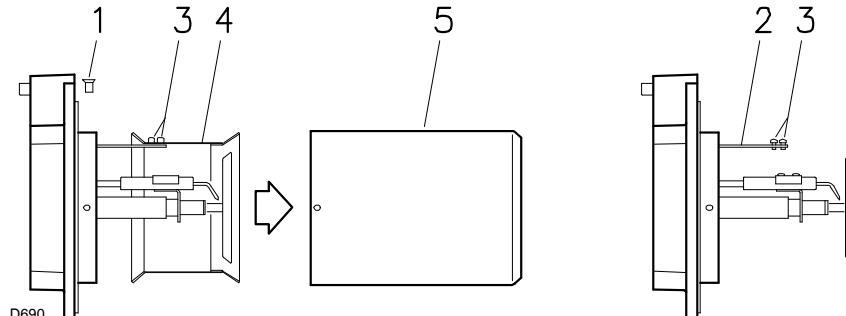

Fig. 8
- unscrew the screws 1)(Fig. 8) and disassemble the blast tube 5);